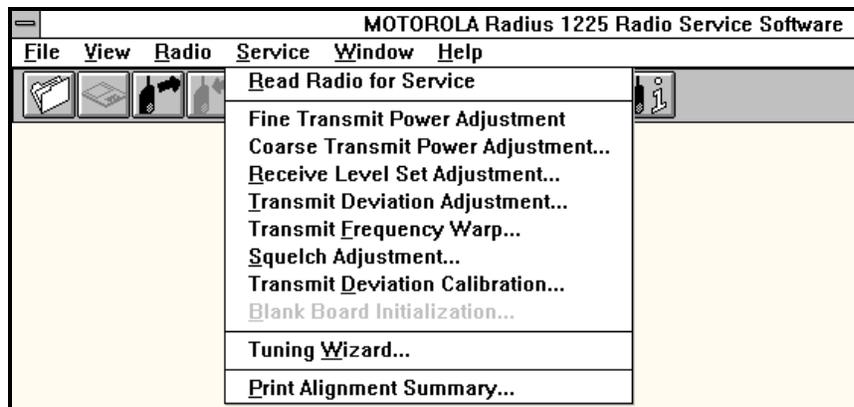

Figure 7.1 – Adjustments and Calibrations
9. After the radio is read, again select **Service** from the menu bar. The adjustments and calibrations for the radio are shown in Figure 7.1.